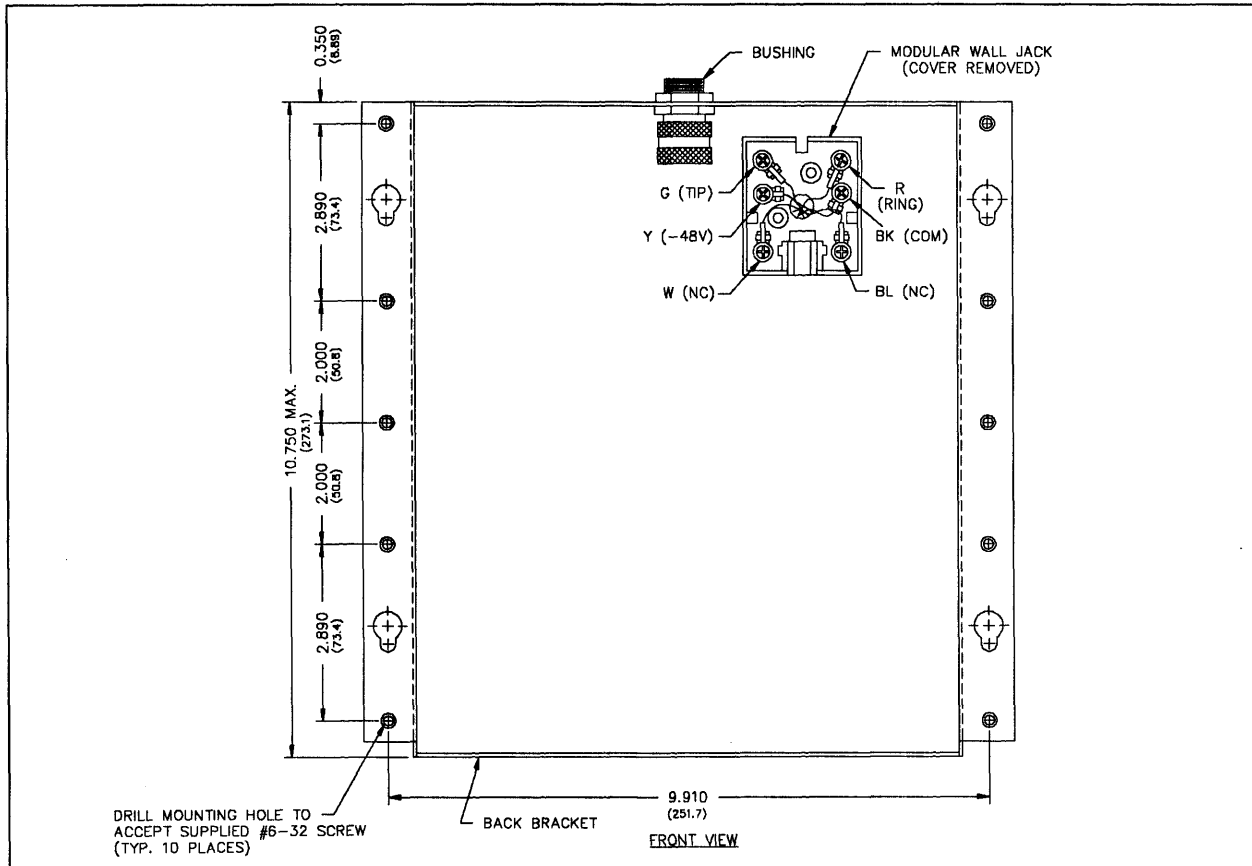

Figure 1. 295F Mounting and Wiring Detail
6. Snap the cover off of the modular wall jack. Use Figure 1 as a wiring guide. Wire incoming Tip wire to the green wire of the modular jack. Wire the incoming Ring wire to the red wire of the modular jack, (-48V) to the yellow wire of the modular jack, and (COM) to the black wire of the modular jack. Replace the modular wall jack cover.